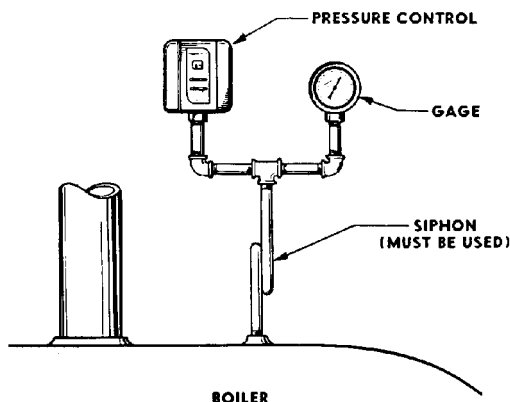

Figure 7-12. Pressure control on T-mounting.
(1) When installing, keep bellows from direct contact with steam. Some boiler waters are corrosive but by taking proper precautions, the life of brass or bronze bellows can be materially prolonged. To isolate the control, install a standard water siphon between the boiler and the control. Either a goose-neck or ball type siphon can be used. Figure 7-12 shows a typical installation of a pressure gauge and pressure control. Where excessive vibrations are encountered, mount the pressure control remotely from the boiler on a solid mounting with a suitable piping connection between. Pressure controls located remotely from the boiler must be installed at a slightly higher level than when mounted as shown in figure 7-12, and piping must be properly pitched to drain all condensate back into the boiler. Always connect a siphon between the pressure control and boiler.
(3) A pressure control can be mounted either on a "T" along with the pressure gauge on a pressure gauge tapping as shown in figure 7-12 or it can be mounted on the low water cut-out provided by some manufacturers. Apply pipe dope to male threads only and leave the first two threads bare.